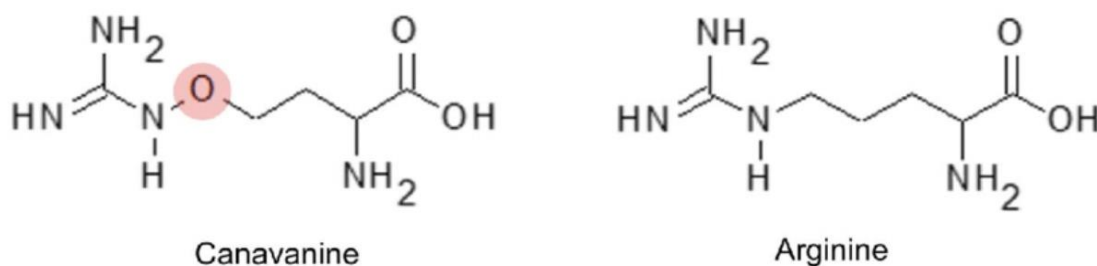

Figure 3. Chemical structure of canavanine and arginine
- Compare the structure of canavanine (CAN) with that of arginine (shown in Figure 3). In what type of macromolecules is arginine normally incorporated? Can you make an educated guess on the mechanism of CAN toxicity?